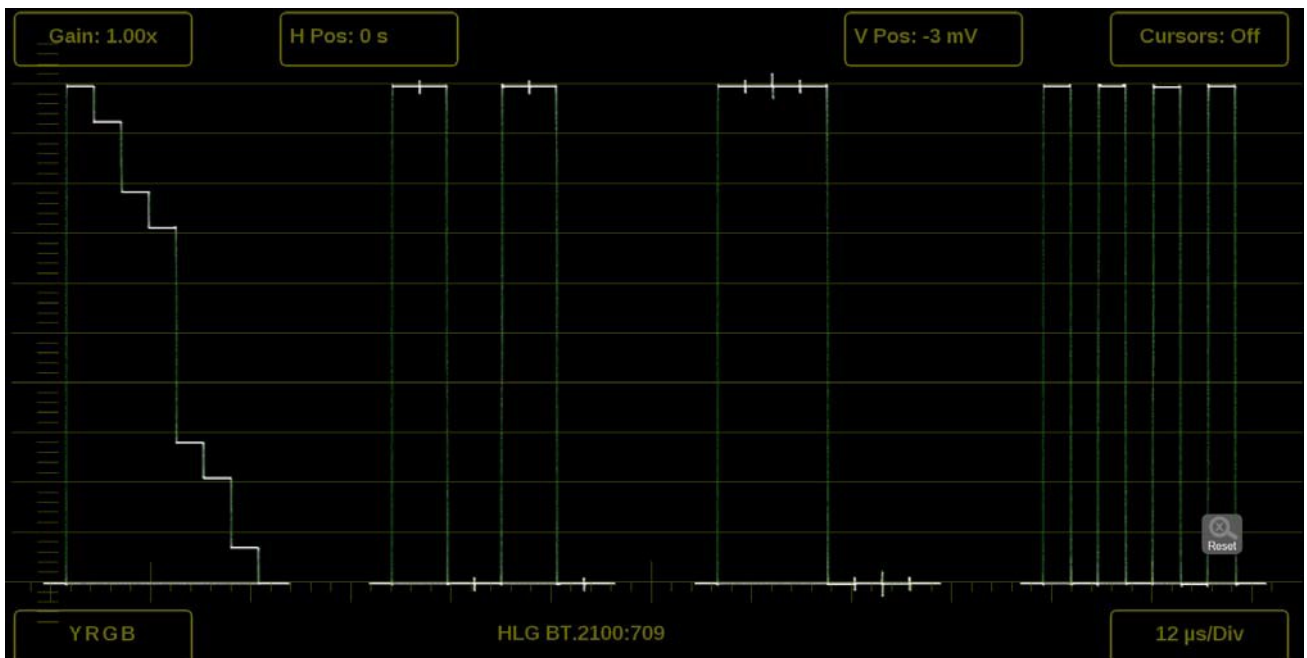

Figure 14: Waveform on-screen tools
**Use on-screen tools** Some settings for the Waveform, Vector, Lightning, and Stop Display applications are available outside the settings menu through on-screen tools. Applications with on-screen tools enabled have buttons on the top and bottom of the display that allow you to adjust the application settings. (See Figure 14.) When first selecting one of the displays, a highlighted ring appears around each available on-screen tool such as Gain, Format, Sweep, Cursors and Position. For instructions on how to use each on-screen tool, see these application sections: